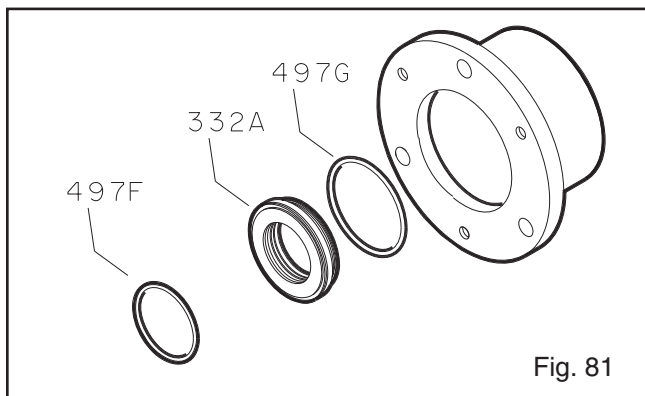

Fig. 81
8. Remove bearing locknut (136) and bearing lockwasher (382).
- Remove outboard labyrinth seal (332A) from bearing housing (134). Remove O-rings (497F), (497G) if necessary (Fig. 81).